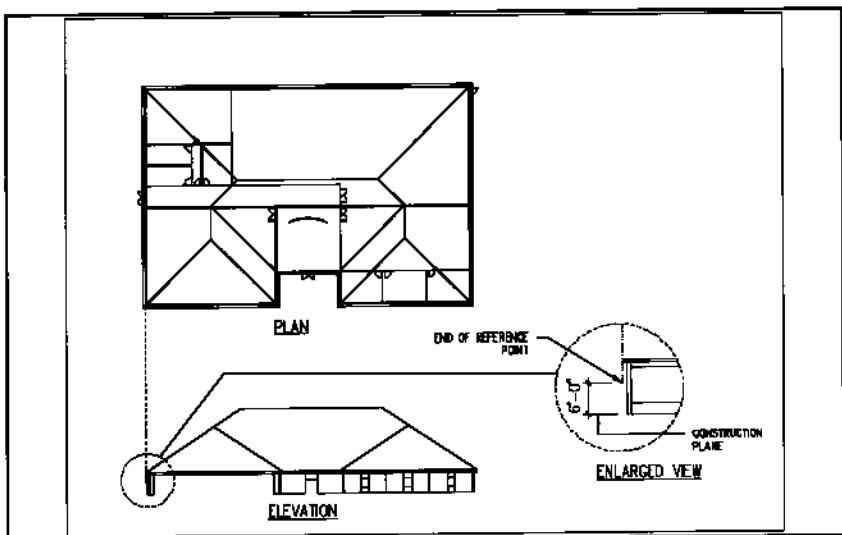

Figure 6.
9. The final prompt offers an option to designate the height above the construction plane for viewing the elevation. An enlarged view describing the construction plane is shown in Figure 6.
Note: The draft elevation with an enlarged view of the reference line as it relates to the construction plane is shown in Figure 6.